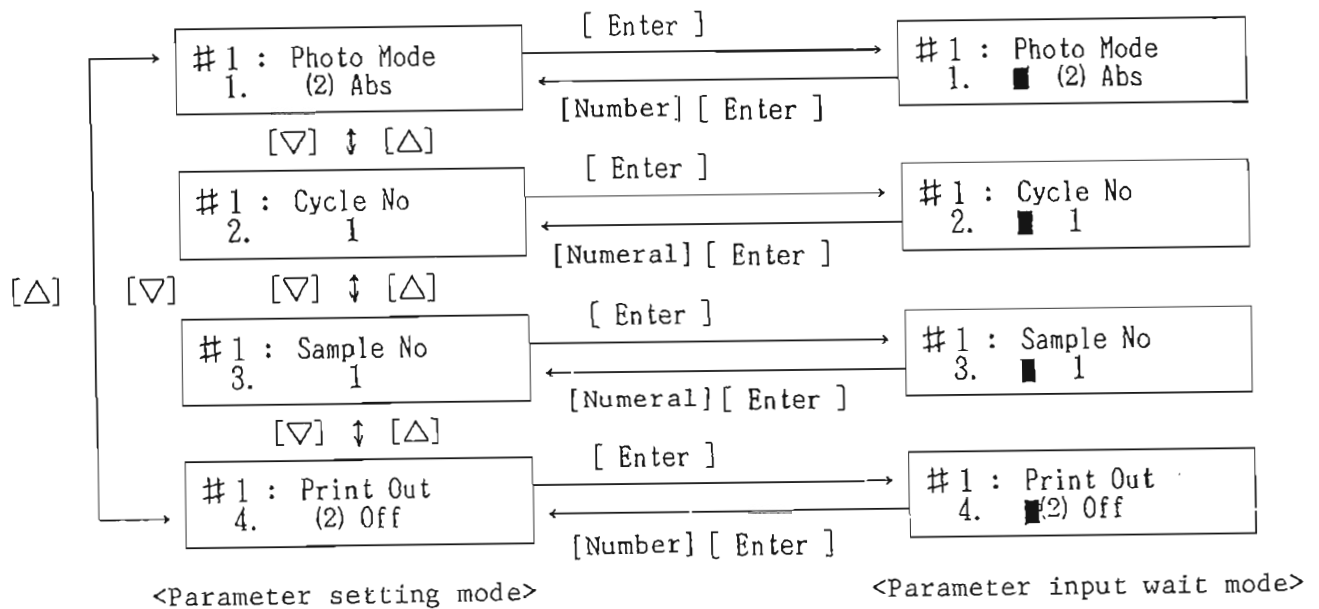

Fig. 7-1 LCD display and key operation in setting parameters in Method 1.
If, for example, keys [Method][1][Enter] are pressed to call Method 1, the parameter setting mode in Fig. 7-1 will be displayed.
- (1) Pressing the cursor key ( $\Delta$ ) or ( $\nabla$ ) in the parameter setting mode changes the contents of LCD display (see Fig. 7-1).